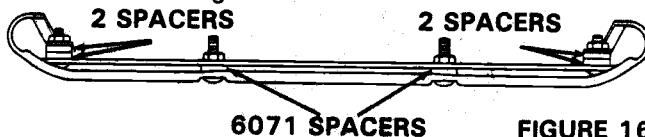

FIGURE 16
2. To obtain smoothest cutting in lowest cutting height settings, the runners may be adjusted as shown in Figure 16.
3. To avoid overheating and possible engine damage, periodically remove the shrouding from around the cooling fins, Figure 16, and clean the area shown within the heavy black line of all grass, dirt or chaff accumulation.